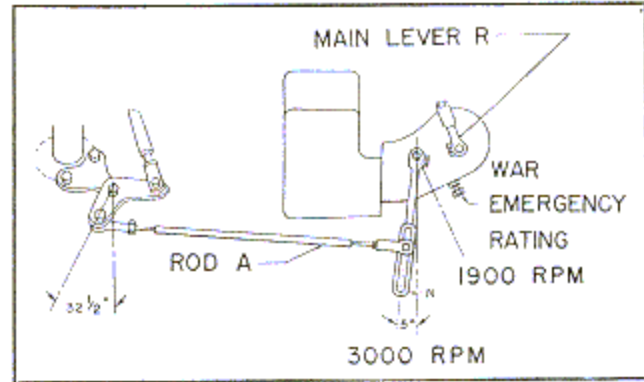

Figure 176—Automatic Control
Adjustment of the engine control unit must be accurately made to the dimensions and angles shown in figures 176 and 177.
- Disconnect rod (A) (figure 176).
- With a protractor measure, make sure that the angles are as shown in figure 176.
- Place main lever (R) in the extreme counter-clockwise position and check propeller governor control lever (N). As shown in figures 176 and 177, it must be positioned five degrees forward of the vertical center line.
- If lever (N) is not so positioned change it to the correct position by removing the lever from the splined shaft and replacing it in the next fore or aft splines as found necessary.
- With levers (R) and (N) and the propeller governor lever against its stop they are all in the 3000 rpm position.
- With the three levers firmly held in these positions reconnect rod (A) as shown in figures 176 and 177.